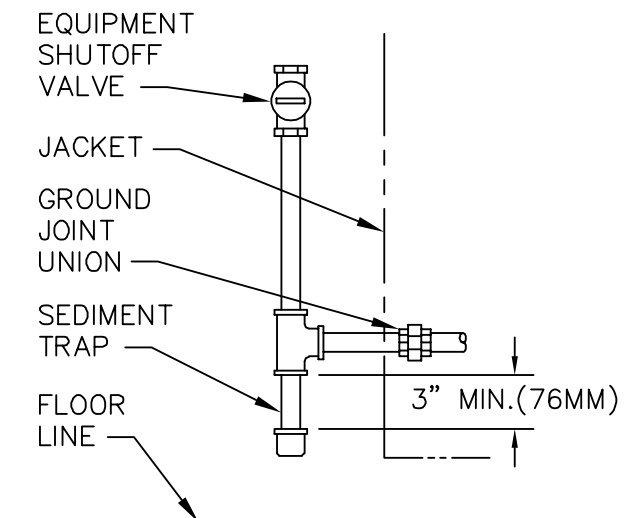
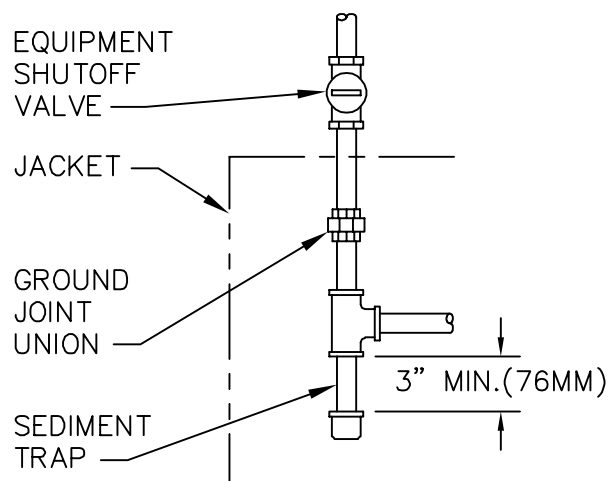

Figure 5.1: Gas Connection to Boiler - External
Figure 5.2: Gas Connection to Boiler - Internal
5. Install a sediment trap. See Figure 5.1. Locate a tee in the drop pipe at same elevation as the gas inlet connection to the boiler. Extend the drop pipe to a pipe cap. As an alternate, the sediment trap may be located in the boiler vestibule. See Figure 5.2.
6. Install a ground joint union ahead of the gas control assembly to permit servicing of the control. Some local codes require an additional equipment shutoff valve when using the combination gas controls. If your code requires such a valve, a suggested location is shown in Figure 5.1 or 5.2.